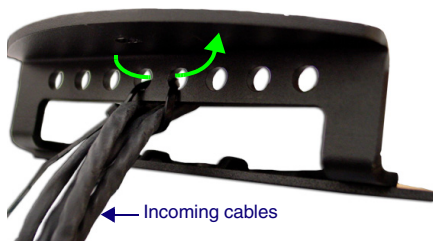

FIG. 5 Thread a tie-wrap through the center holes on the Raised Lock Bracket
- Thread a tie-wrap (not included) through the center pair of circular openings on the bracket (FIG. 5) and use it to secure all of the NXA-MTC/RGB cables to the bracket. Trim off any excess length on the tie-wrap (if necessary).